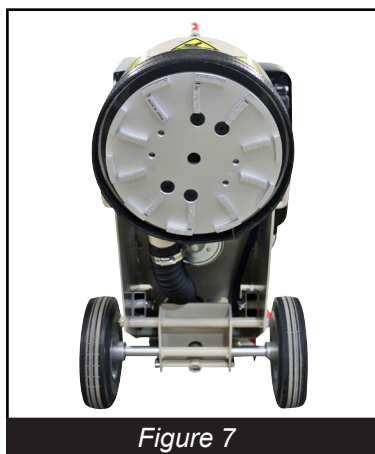

Figure 7
If rear of grinding disc is higher (not touching the work surface) than the front of the disc (touching the work surface) turn this control (*Figure 7*) counter clockwise until disc sits level (flat) on the work surface.
If front of grinding disc is higher (not touching the work surface) than the rear of the disc (touching the work surface) turn this control (*Figure 7*) clockwise until disc sits level (flat) on the work surface.
- Inspect the disc (*Figure 7*) periodically to determine it's wear characteristics, if signs of uneven wear appear the cause should be determined and corrected. If repairs are needed contact EDCO or your EDCO representative.